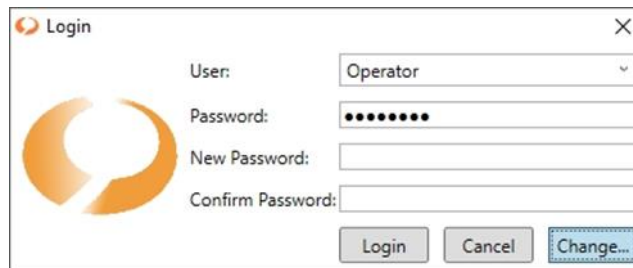

Figure 20: Changing password.
- 9.) Use this password and you are allowed to add a new password (Figure 20)